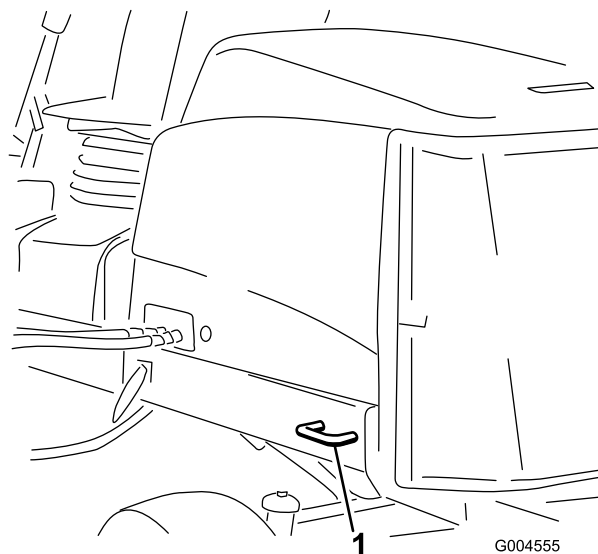

Figure 46
- Rear—each side of the machine on the rear frame (Figure 46).